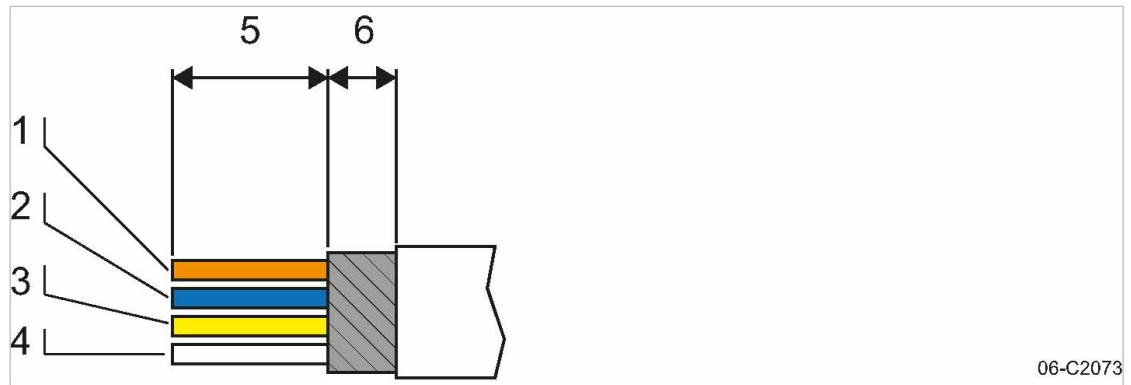

Fig. 14 Strip the isolation from the network cable.
1. Stripping the network cable isolation (see Fig. 14).
2. Spread the conductors according to the colour coding of the contact element of the RJ45 connector (see Fig. 14).